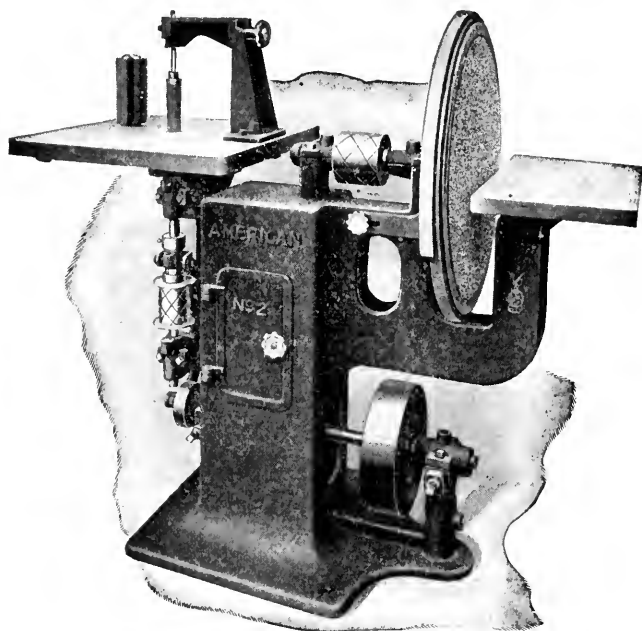

Fig. 52—DISC AND SPINDLE SANDER
**54. Speed and Power--** Belt sanders, as described in Fig. 52, are run at a surface speed of about 2200 feet per minute, and require a 2 H. P. motor. The disk and spindle sander, described in article 53, should have a speed of 700 r. p. m. for disk, and 1200 r. p. m. for the spindle. A 2 H. P. motor is required for power.
The disk and spindle sander illustrated in Fig. 52 is one of the safest types in use. The disk, made of glued up strips, is covered with a piece of heavy Brussels, and acts as a pad for the sand paper. The iron band around it holds the paper in place.